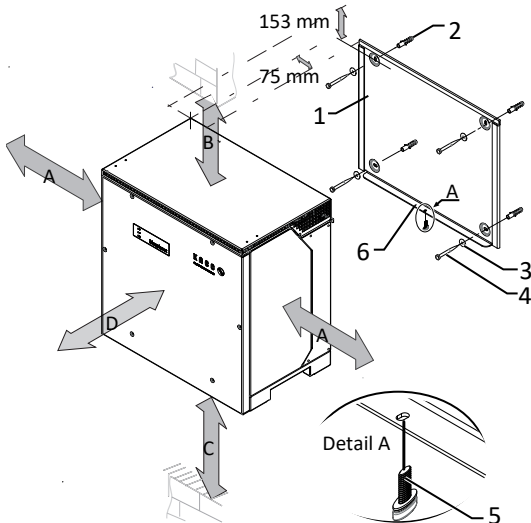

Fig. 16: Minimum clearances for wall mounting
3. Insert the screw provided into the lug of the mount and secure the device to prevent it from being lifted off [✕T30 /  2 Nm] [See figure 16 [▶ Page 22]].